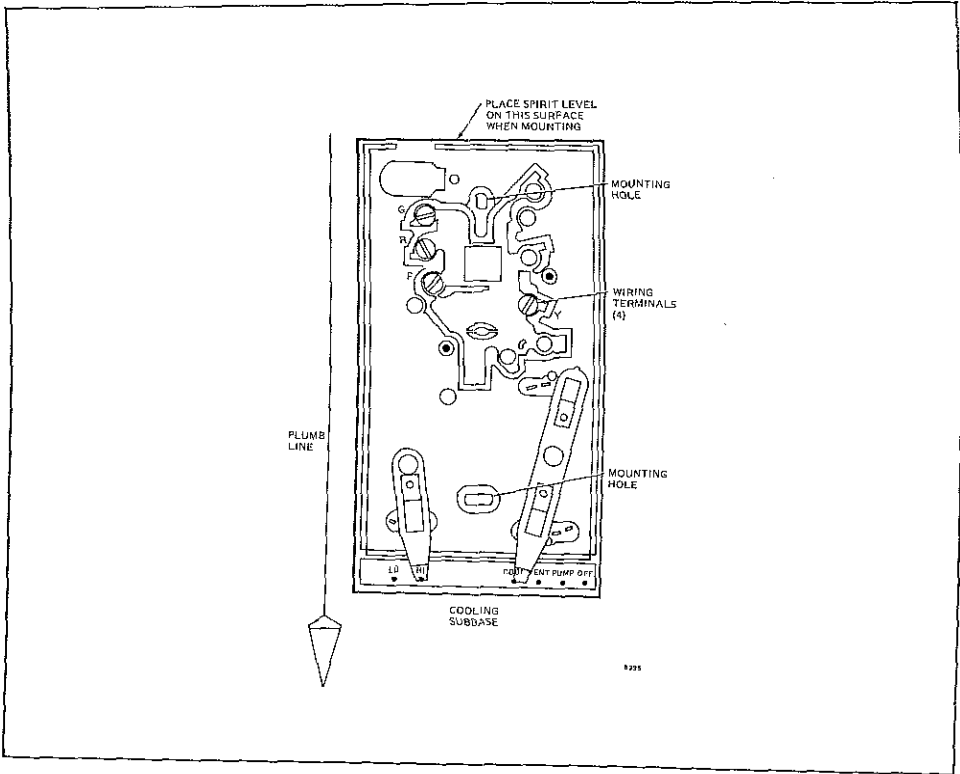

Fig. 1—Leveling the subbase.
3. Pull about 6 in. [150 mm] of thermostat wire through the hole in the wall, and thread it through the wire opening. See Fig. 1. Secure the subbase with the two screws provided, but do not tighten.
4. Level the subbase as shown in Fig. 1, and tighten the subbase mounting screws.